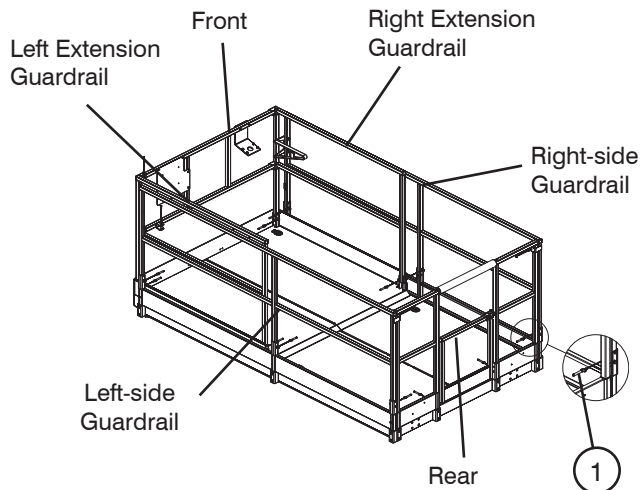

Figure 3-13. Folding Guardrail System
6. Fold guardrails down in the following order: rear, front, left extension, right extension, left-side and right-side (refer to Figure 3-13).